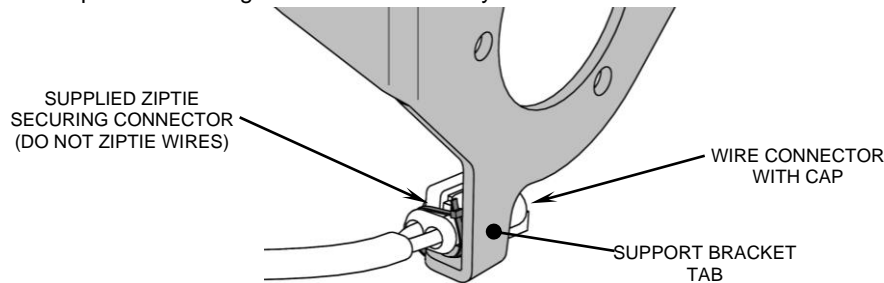

FIGURE 2
7. Now snug the (3) buttonhead bolts evenly, and then fully tighten them to the throttle body. Tighten the (2) breather bolts.
9. **For 2012 Dyna models** use the supplied ziptie to secure the wire connector/cap to the support bracket tab. See **FIGURE 2**. *NOTE: Secure ziptie around the connector, DO NOT ziptie around wires.*